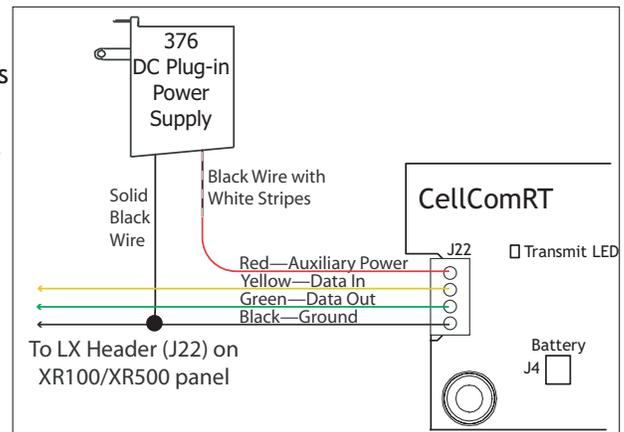

Figure 4: Optional Plug-in Transformer Installation
2. Connect the plug-in power supply Black wire with White stripes to the top CellComRT J22 terminal position 'R'. See Figure 4.
3. Connect the plug-in power supply solid Black wire to the bottom CellComRT J22 terminal position and to the LX header (J22) on the XR100/XR500 Series panel. See Figure 4.